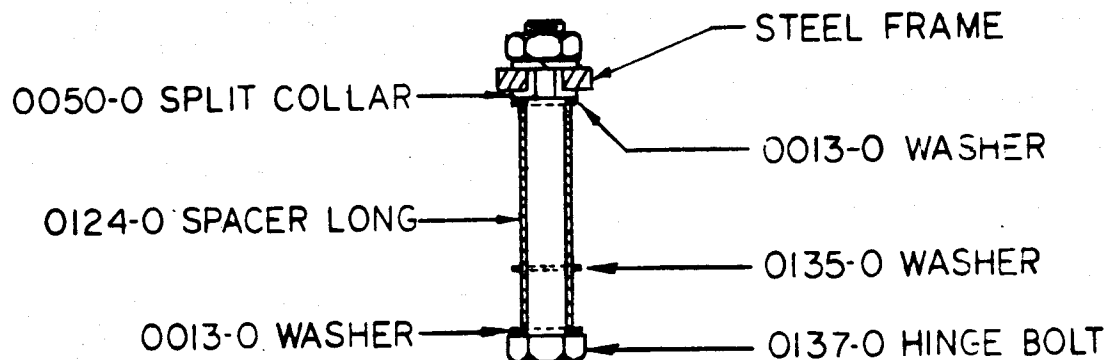

FIG. 7
- (c) To install the lower chain assembly remove the  $\frac{1}{2}$ " hex nut and lockwasher and the rubber band used to keep the split collars in place. (See Fig. 7.).